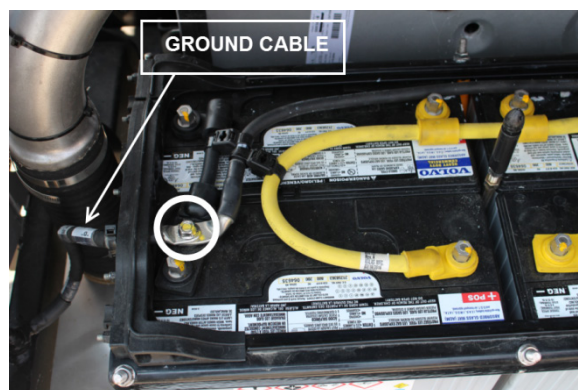

FIGURE 43: DISCONNECT GROUND CABLE FIRST
2. Disconnect the ground cable first (FIGURE 43).